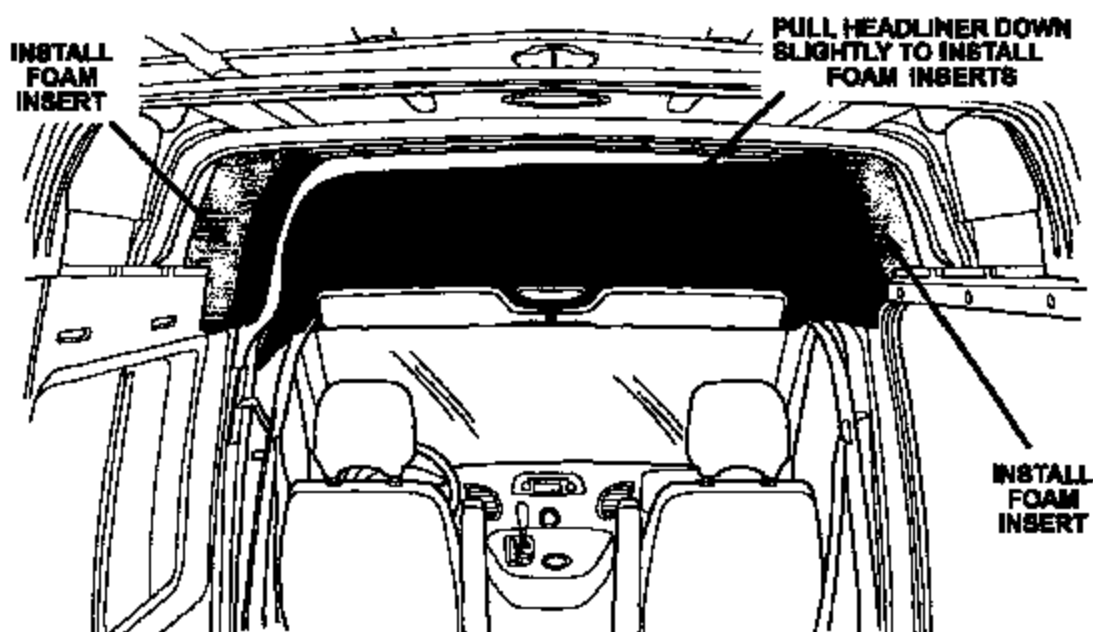

Figure 5 – High Roof Shown
7. While pulling the headliner down slightly, install the right and left side roof foam inserts as shown in Figure 5.